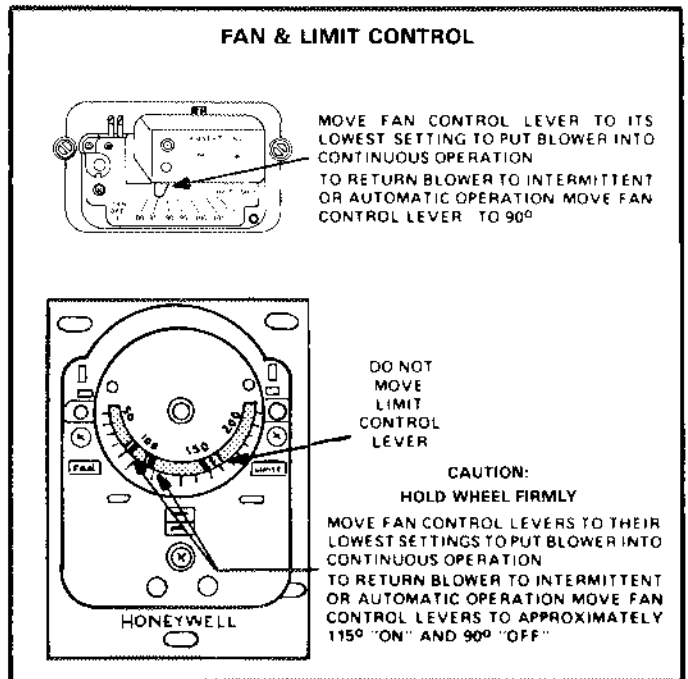

FIGURE 8
**2 - Fan/Limit Control (Figure 8)**